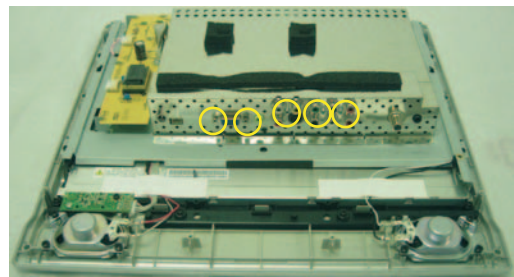

Fig.5
c. Remove the 5 screws as Fig.5, then remove the Main shield assy.